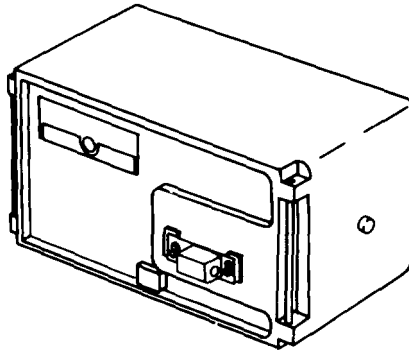

Figure 1-8. Battery Assembly BA-522/PNH-7
e. Battery Assembly BA-522/PNH-7. Refer to figure 1-8. Battery Assembly BA-522/PNH-7 provides the required 10 to 12 Vdc to operate the sound recorder/ reproducer. It is plugged into the rear of the recorder/ reproducer. The assembly holds eight BA-30 batteries with an operating life of approximately 8 hours. Refer to TM 32-5835-203-14&P for additional information.